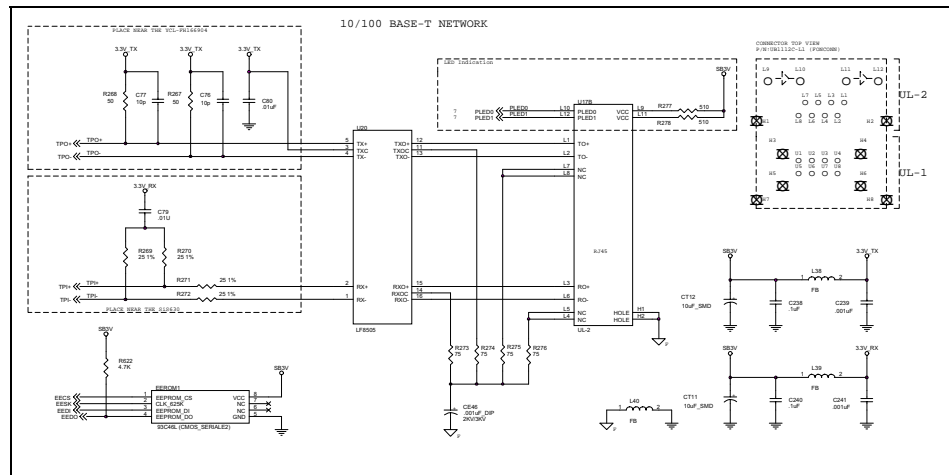

Figure 39. Schematics for LAN Signals
2. The transmit output (TPO±) and receive input (TPI±) are terminated with external resistors tied to VDD. This is to meet the Input/output impedance and return loss requirements of IEEE802.3. (Refers to Figure 39)